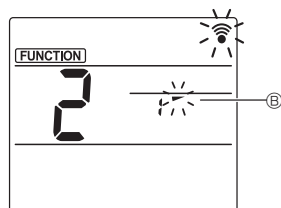

Fig. 3-3
③ Setting the vane angle (Fig. 3-3)